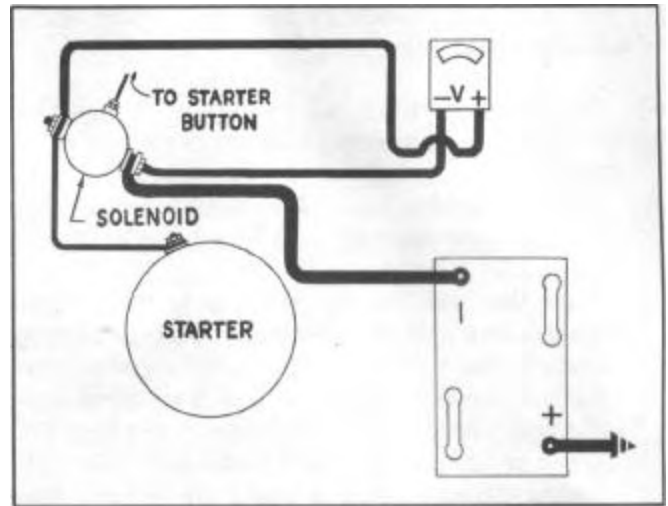

FIGURE 5
1. Connect negative voltmeter lead to "Bat" terminal of starter solenoid switch and positive lead to motor terminal of the solenoid switch, Figure 5.